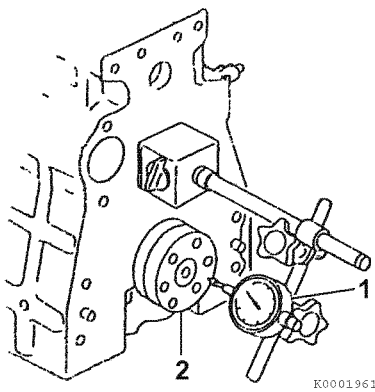

Figure 6-58
- **Method A:** Install a dial gauge (**Figure 6-58, (1)**) on the cylinder block. Move the crankshaft (**Figure 6-58, (2)**) in and out to measure the end play. Record the measurement.